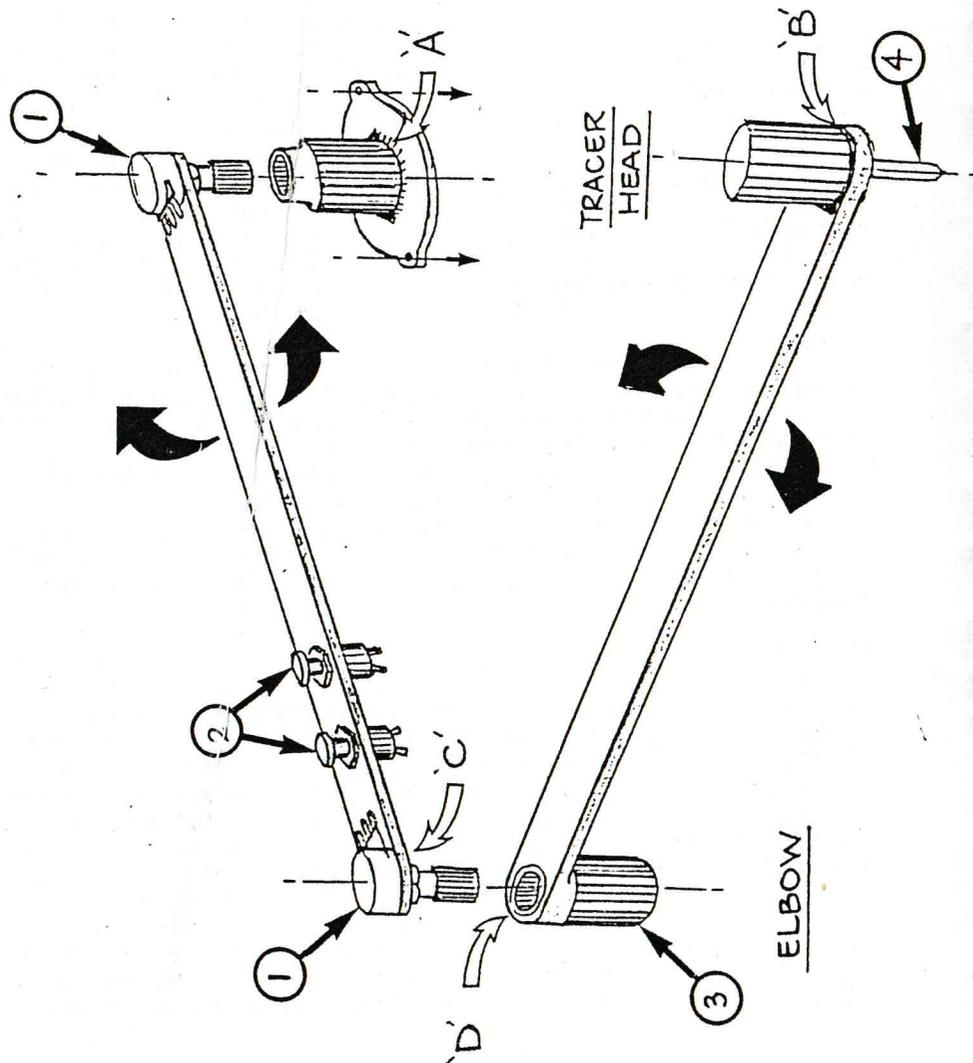

FIG 3
FIGURE 3 shows the Graphic Arm that I made from a toy "Sketch-a-Graph". The two 12-inch (305mm) arms should be retained, as should the central pivot. In order to make the arm as adjustable as possible, the two potentiometer shafts can be rotated with respect to the instrument knob housings (ref.3) before insertion. This gives us the option of fine adjustment at the setting-up stage described later. There are 4 construction procedures that I've identified in FIG 3: